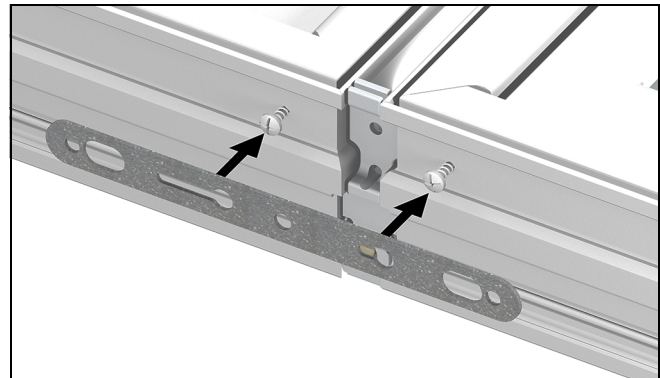
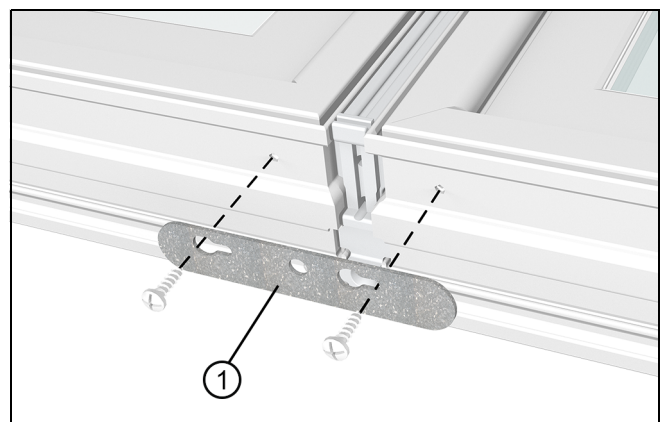

Figure 6
Figure 7
4. Place the brackets as shown. Fasten using screws loosened in previous steps. See Figure 6. Use the smaller bracket for sill mullion joints on sliding window products. See Figure 7.